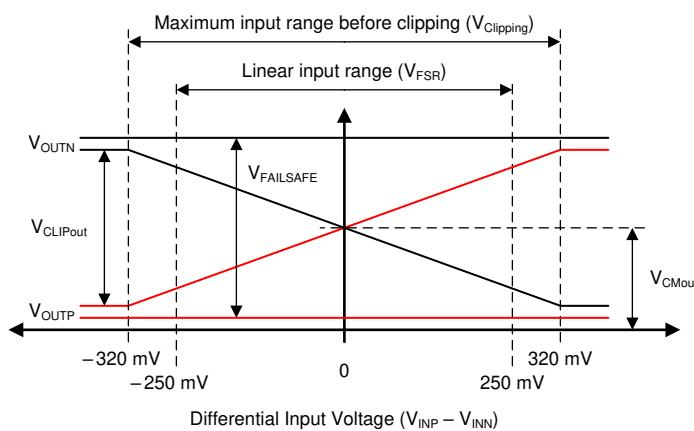

图 6-2. Output Behavior of the AMC3301
The AMC3301 offers a differential analog output comprised of the OUTP and OUTN pins. For differential input voltages ($V_{INP} - V_{INN}$) in the range from -250 mV to $+250$ mV, the device provides a linear response with a nominal gain of 8.2. For example, for a differential input voltage of 250 mV, the differential output voltage ($V_{OUTP} - V_{OUTN}$) is 2.05 V. At zero input (INP shorted to INN), both pins output the same common-mode output voltage V_{CMout} , as specified in the Electrical Characteristics table. For absolute differential input voltages greater than 250 mV but less than 320 mV, the differential output voltage continues to increase in magnitude but with reduced linearity performance. The outputs saturate at a differential output voltage of $V_{CLIPout}$ as shown in 图 6-2 if the differential input voltage exceeds the $V_{Clipping}$ value.
The AMC3301 provides a fail-safe output that simplifies diagnostics on system level. 图 6-2 shows the fail-safe mode, in which the AMC3301 outputs a negative differential output voltage that does not occur under normal operating conditions. The fail-safe output is active in two cases:
- The low-side does not receive data from the high-side (for example, because of a loss of power on the high side). In this case, the amplifier outputs are driven to the $V_{FAILSAFE}$ value that is shown in 图 6-2.
- The high-side DC/DC output voltage (DCDC_OUT) or the high-side LDO output voltage (HLDO_OUT) drop below their respective undervoltage detection thresholds (brown-out). In this case, the low-side may still receive data from the high-side but the data may not be valid. The amplifier outputs are driven to the $V_{FAILSAFE}$ value that is shown in 图 6-2.